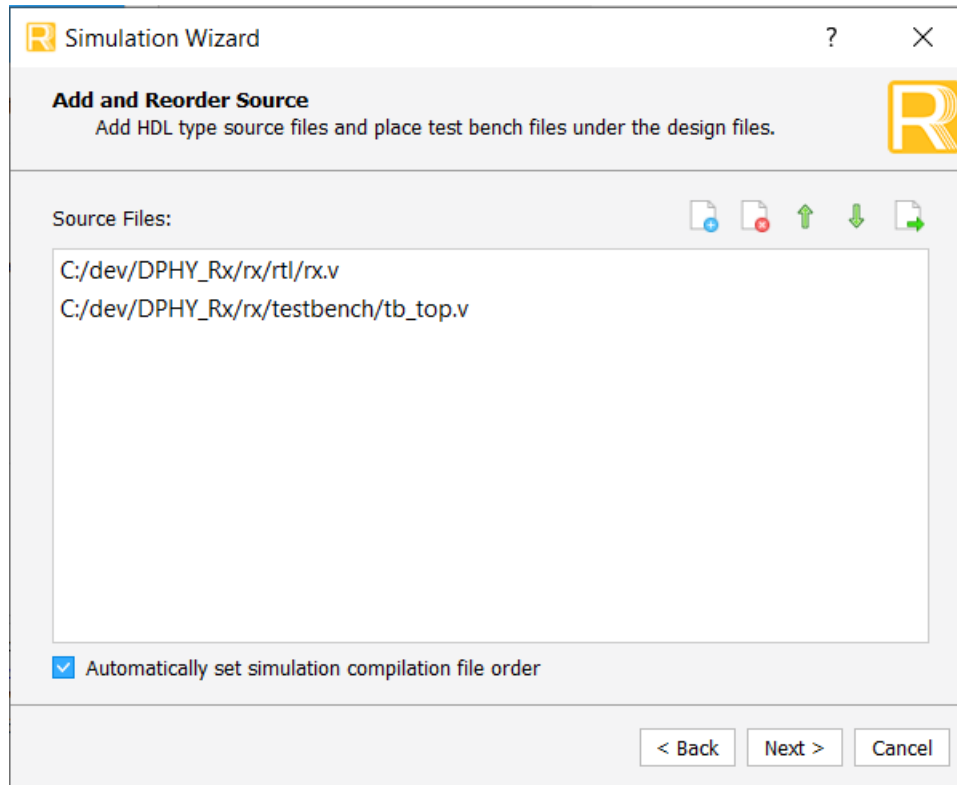

Figure 6.5. Adding and Reordering Source
3. Double-click **Next** to open the **Add and Reorder Source** window as shown in Figure 6.5.